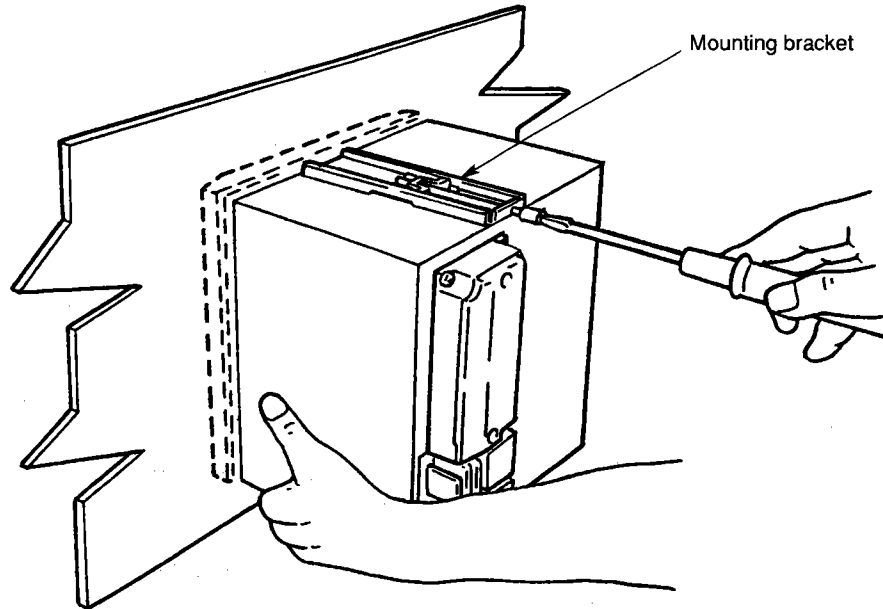

Figure 2.1 Mounting
- (1) Mount the recorder on a steel panel whose thickness is at least 2 mm (and up to 26 mm).
- (2) Insert the recorder into the panel-front face.
- (3) Fix the recorder to the panel using the mounting brackets as shown in Figure 2.1. Adequate screw tightening torque is approximately 8 to 12 kg-cm. A pair of mounting brackets can be applied to the recorder's top and bottom, or to both side faces. Remove the seals covering the holes for the brackets before attaching them.